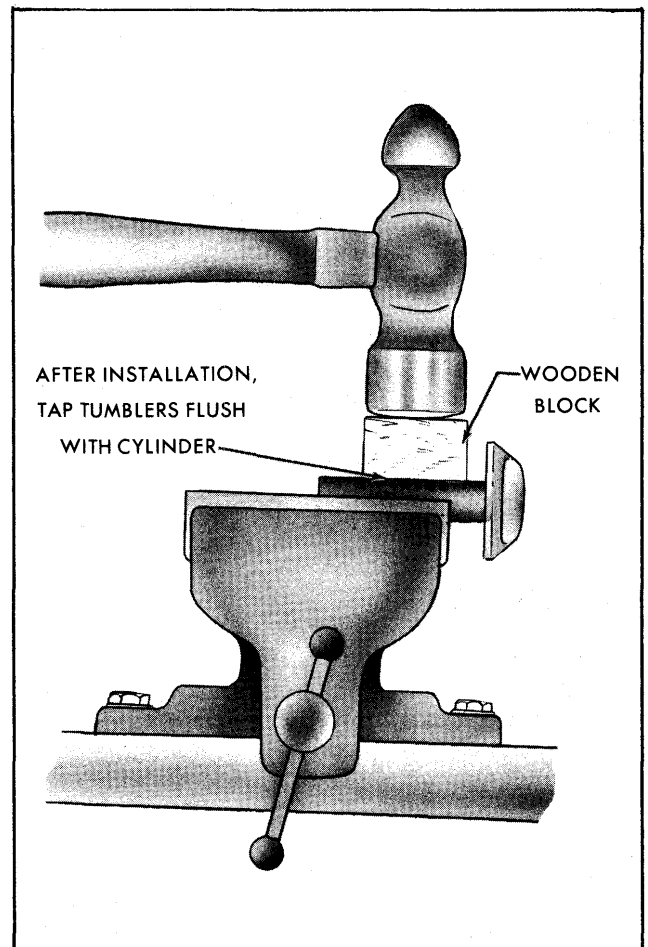

Fig. 1-6-Locking Tumblers In Place
4. Place small wooden block flat on exposed tumblers and tap tumblers down flush with cylinder, as shown in Figure 1-6.